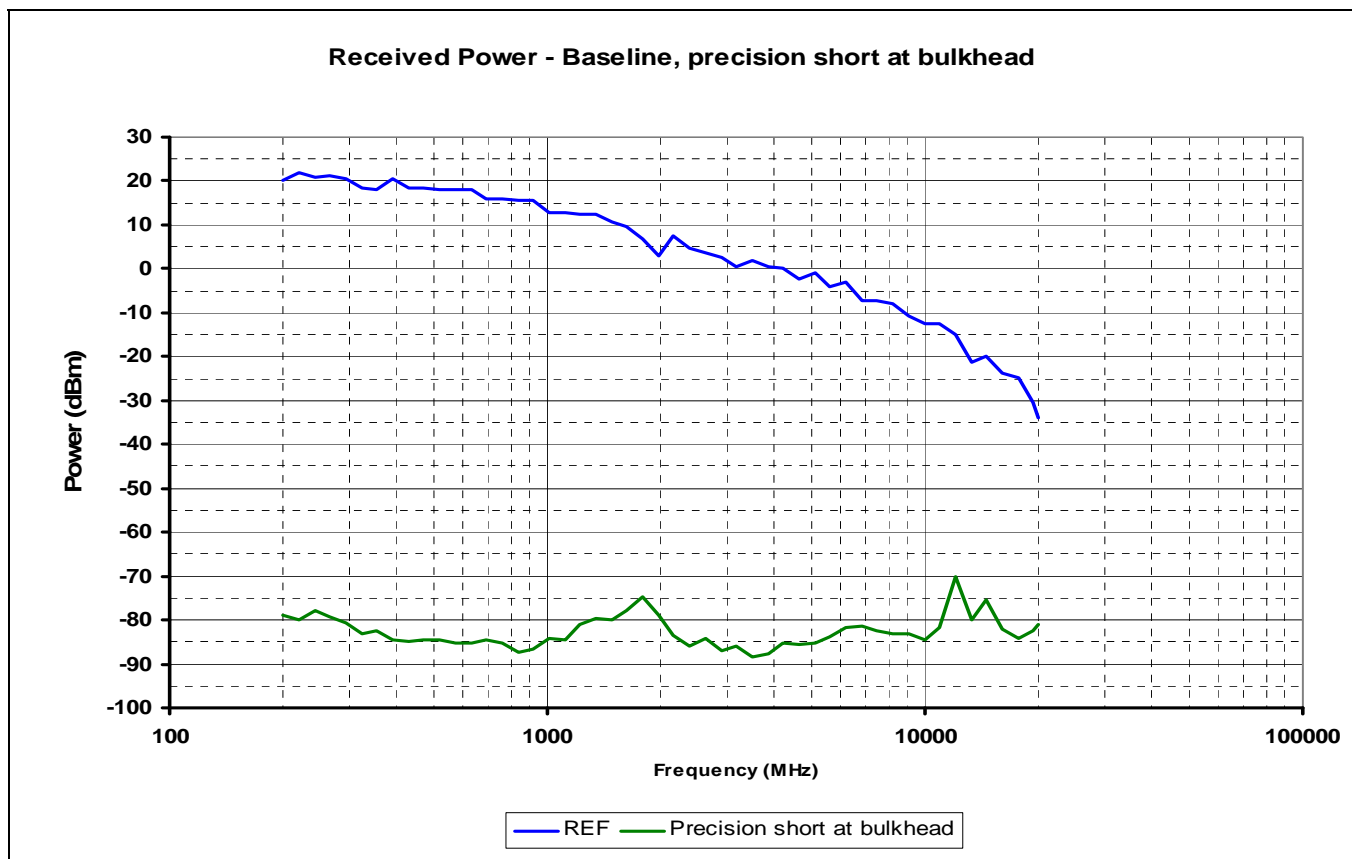

Figure 1. Components of Shielding Dynamic Range
Prior to performing shielding effectiveness (SE) testing of a particular sample, it is important to establish the noise floor of the anechoic test chamber by measuring the SE of the receive line while terminated at the bulkhead connector with a precision short. The difference between this measurement and that of an "in-band" antenna (per IEC 6100-4-21) is the maximum dynamic range of the measurement system. Any sample that has a shielding effectiveness greater than the dynamic range will therefore not be adequately characterized. Figure 1 and show the dynamic range of the measurement system.